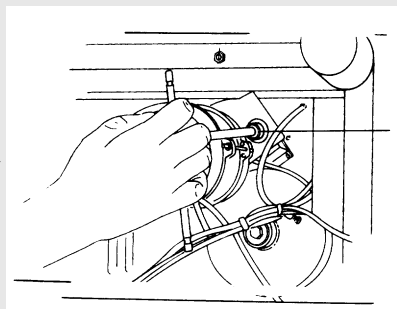

Fig.12
- Loosen the 2 motor supporting nuts 1, Fig. 12.
- Stretch the belt as required and then tighten again the two nuts 1, Fig. 12.